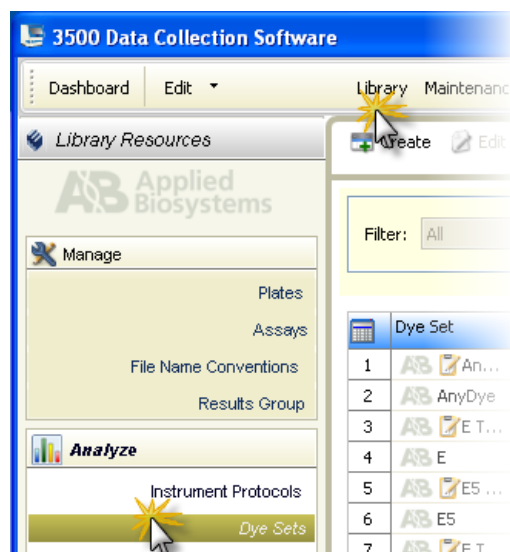

Figure 22 Create New Dye Set
3. In the Create New Dye Set dialog box (Figure 22 on page 169).
3. In the Create New Size Standard dialog box (Figure 22 on page 169), enter a size standard name.